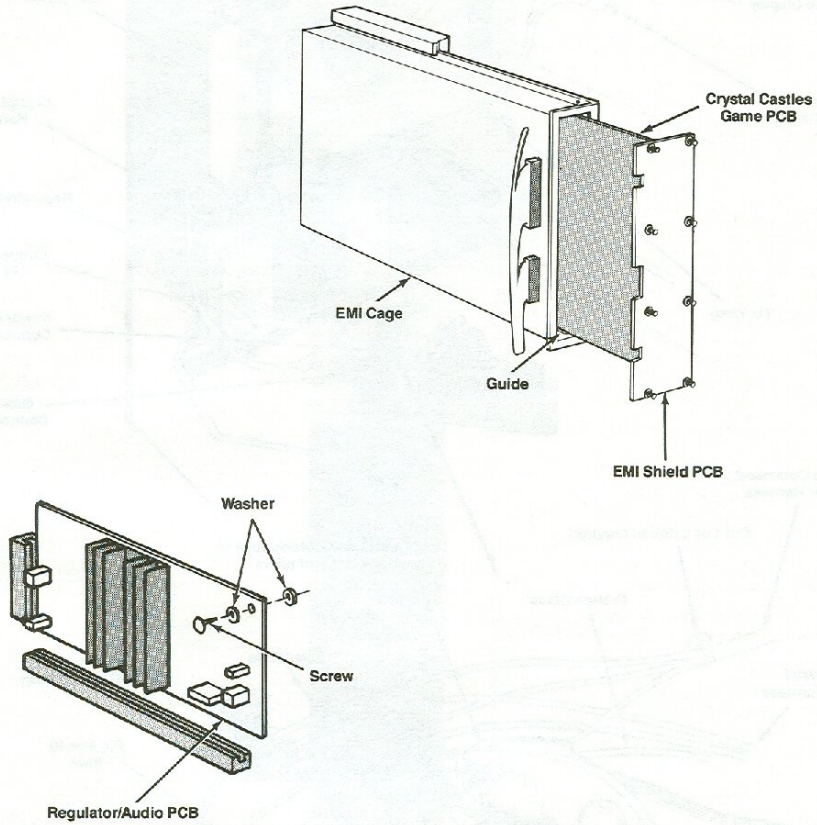

Figure 5 Installing the Printed-Circuit Boards
2. Install the Regulator/Audio II PCB into its cleats. Secure the PCB with one Phillips-head screw and two fiber washers (see Figure 5).